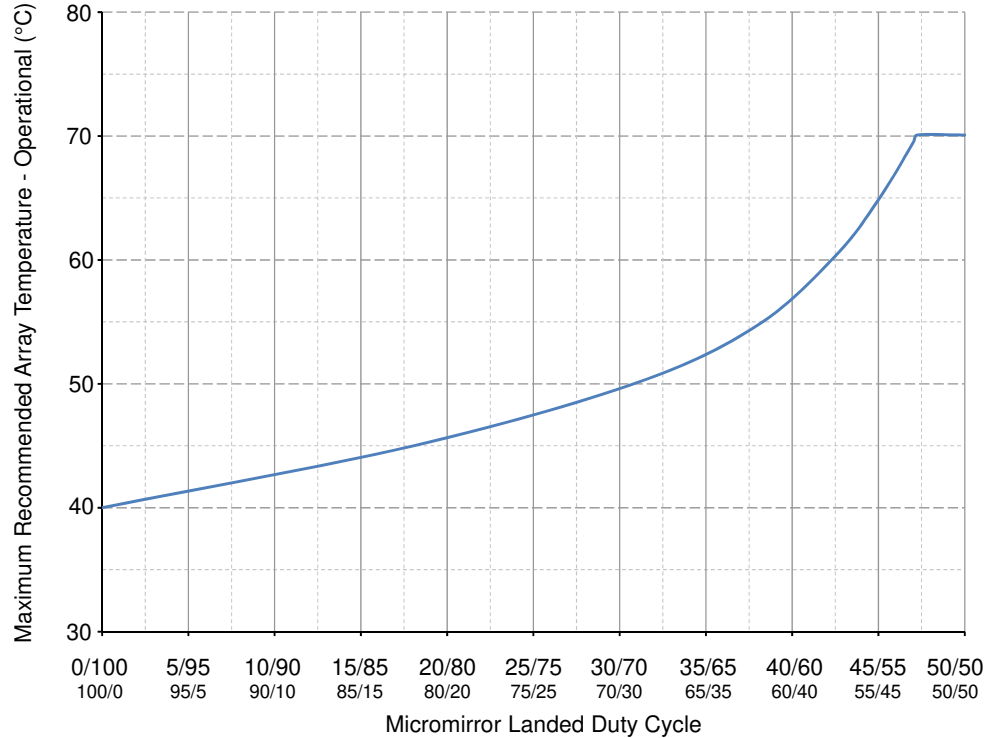
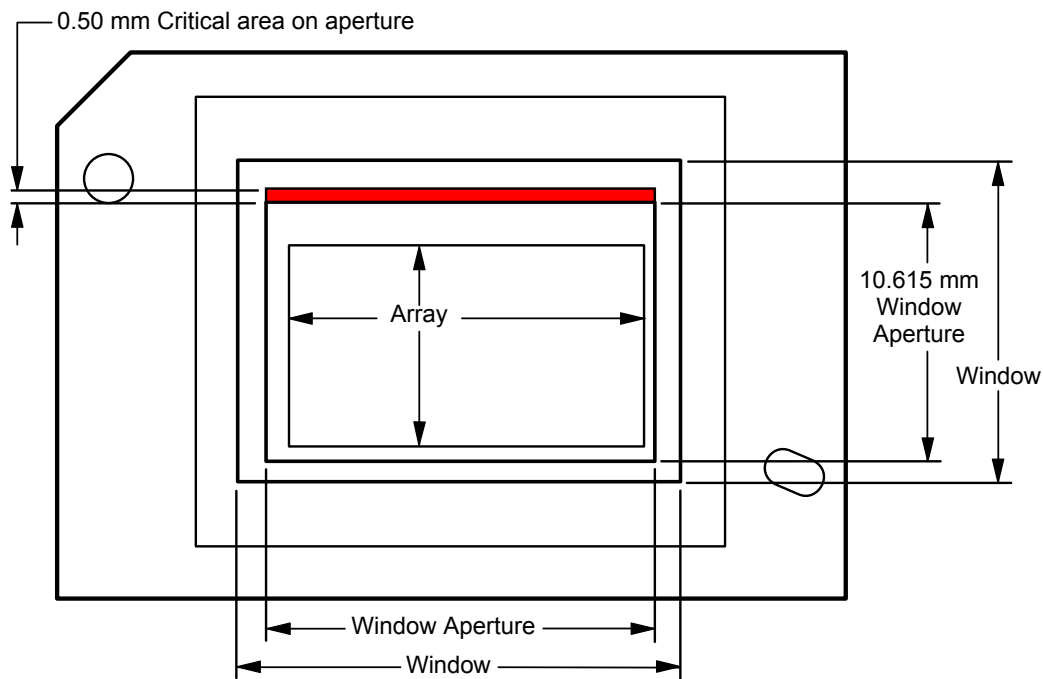

图 5-1. Maximum Recommended Array Temperature—Derating Curve
图 5-2. Illumination Overfill Diagram—Critical Area
- (11) Per 图 5-1, the maximum operational array temperature should be derated based on the micromirror landed duty cycle that the DMD experiences in the end application. Refer to 节 6.9 for a definition of micromirror landed duty cycle.
- (12) Long-term is defined as the usable life of the device.
- (13) Short-term is the total cumulative time over the useful life of the device.
- (14) The average over time (including storage and operating) that the device is not in the 'elevated dew point temperature range'.
- (15) Exposure to dew point temperatures in the elevated range during storage and operation should be limited to less than a total cumulative time of CT_{ELR}.
- (16) The active area of the DMD is surrounded by an aperture on the inside of the DMD window surface that masks structures of the DMD device assembly from normal view. The aperture is sized to anticipate several optical conditions. Overfill light illuminating the area outside the active array can scatter and create adverse effects to the performance of an end application using the DMD. The illumination optical system should be designed to minimize light flux incident outside the active array. Depending on the particular system's optical architecture and assembly tolerances, the amount of overfill light on the outside of the active array may cause system performance degradation.
- (17) Applies to the region in red in 图 5-2
- (18) The maximum allowable optical power incident on the DMD is limited by the maximum optical power density for each wavelength range specified and the micromirror array temperature (T_{ARRAY}).
- (19) To calculate see 节 6.7.